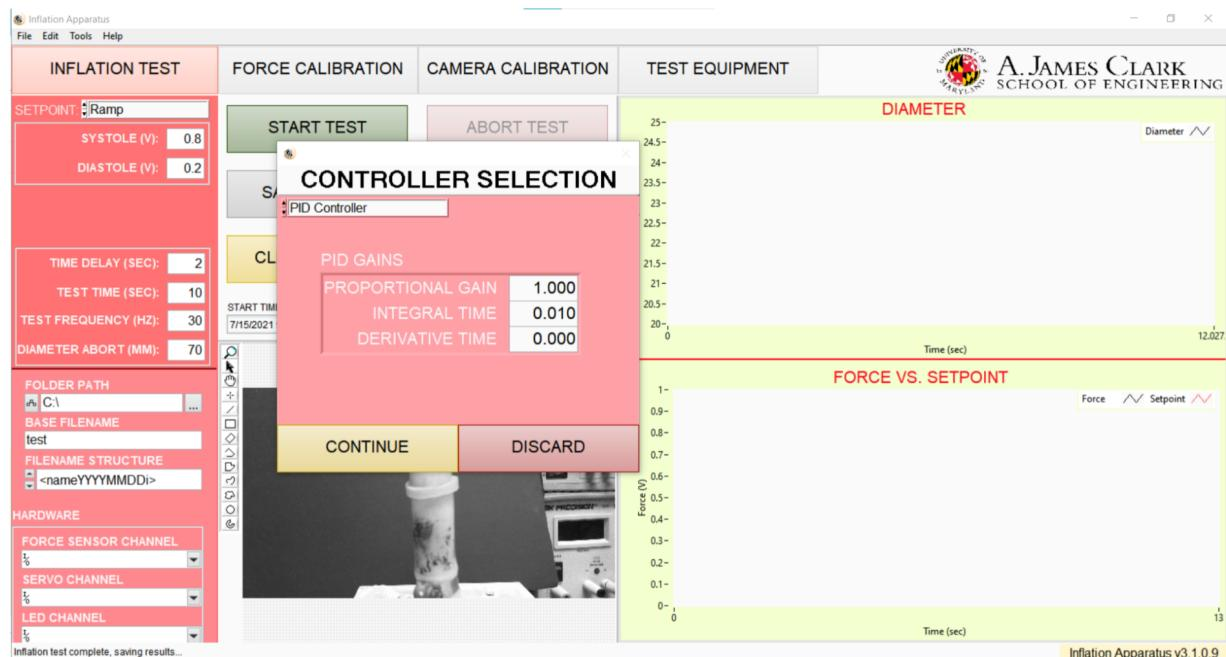

Figure 7: The controller choice window.
2. Edit ↗ Choose Controller: Choose a new controller for the inflation test. A window will be displayed and request the user to input controller parameters (Fig. 7).